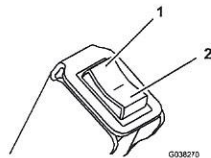

Figure 11
- Dump the hopper by pushing the top of the dump switch (Figure 11).
- Lower the hopper by pushing the bottom of the dump switch (Figure 11).